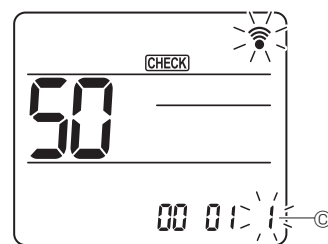

Fig. 6-19
- ④ Selecting the setting number
- Use the [DOWN] button to change the Setting number ^C. (Fig. 6-19)
- ⑤ To select multiple functions continuously
- Repeat select ③ and ④ to change multiple function settings continuously.
- ⑥ Complete function selection